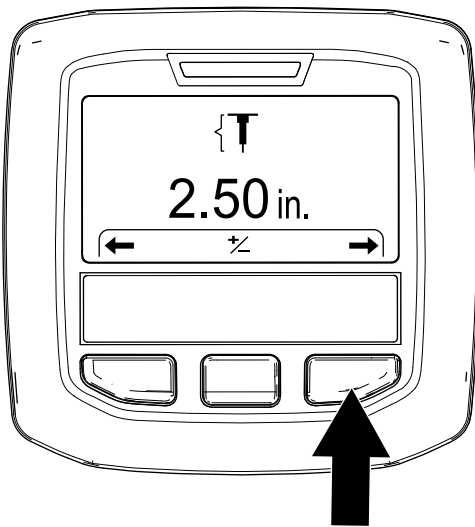

Figure 47
3. Press the right InfoCenter button to display the Setting the Hole Depth screen (Figure 47).